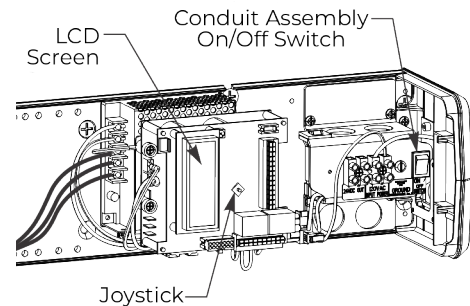

Figure 29 Union Assembly and Spacer not shown
2. Turn On/Off switch to 'OFF' position on conduit assembly. (Figure 29)
- To scroll through menu items, push up or down on joystick. (Figure 29)